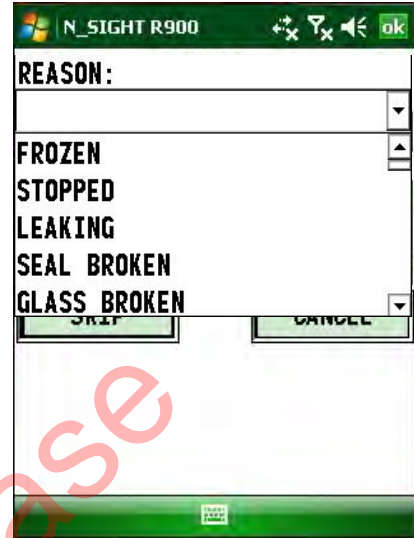

Figure 6.4 N\_SIGHT R900 Skip Order Reason Codes
- 2 Click the drop-down selection list as illustrated in Figure 6.4 to choose the appropriate reason code.